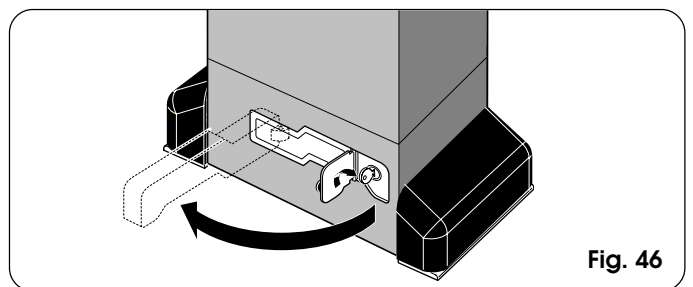

Fig. 46
- 2) Turn the key clockwise and pull the release lever as shown in Fig. 46.